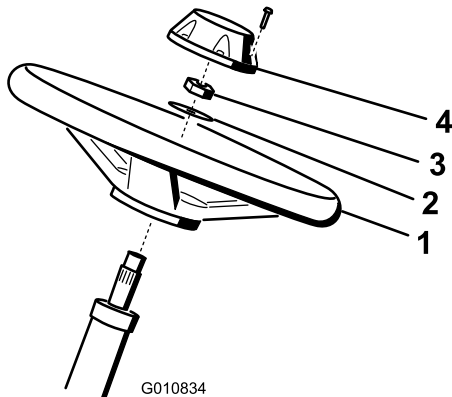

Figure 5
1. Slide the steering wheel onto the steering shaft (Figure 5).
2. Slide the washer onto the steering shaft (Figure 5).
3. Secure the steering wheel to the shaft with a locknut and tighten it to 27 to 35 N·m (20 to 26 ft-lb) (Figure 5).
4. Install the cap to the steering wheel and secure it with 6 bolts (Figure 5).